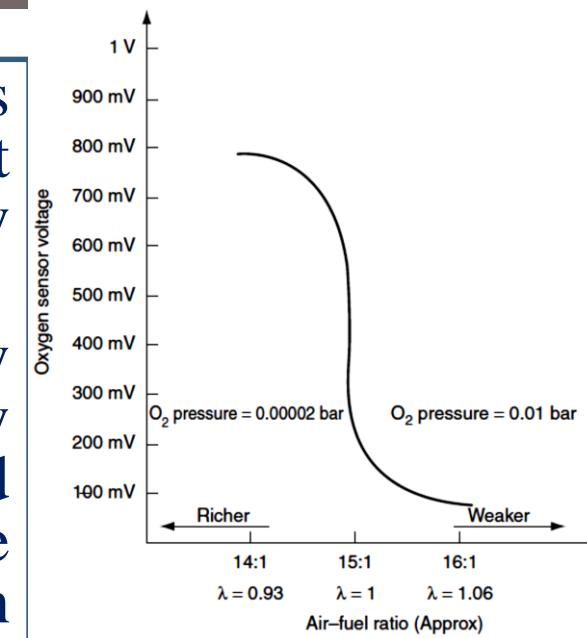

Fig. 5.29 Change in sensor voltage as air-fuel ratio changes
- When the air-fuel ratio changes from slightly rich, say 14:1 $\lambda = 0.93$ to slightly weak, 16:1 $\lambda = 1.06$, there is a marked change in the oxygen partial pressure of the exhaust gas and this leads to a step change in the EGO sensor voltage because the ceramic electrolyte (zirconia) is very sensitive to oxygen levels, as shown in Fig. 5.29.